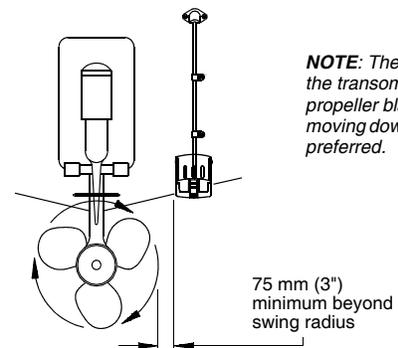

Figure 2. Mounting location on single drive boat
- Mounting the sensor on the side of the transom where the propeller blades are moving downward is preferred (Figure 2).